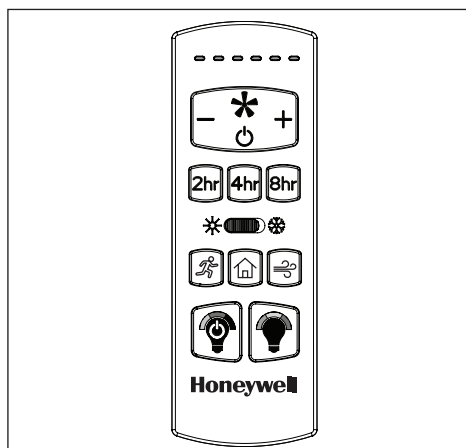

Figure 7.1
1. To operate the fan using the remote, press and release the following buttons (Figure 7.1):